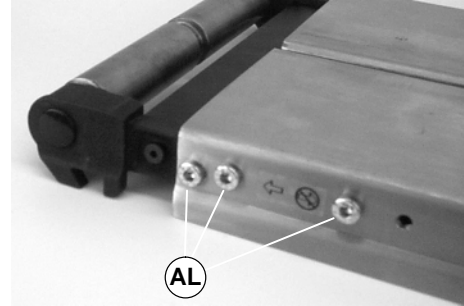

Figure 30
- Remove three (3) screws (AL of Figure 30) on the side opposite the drive shaft.